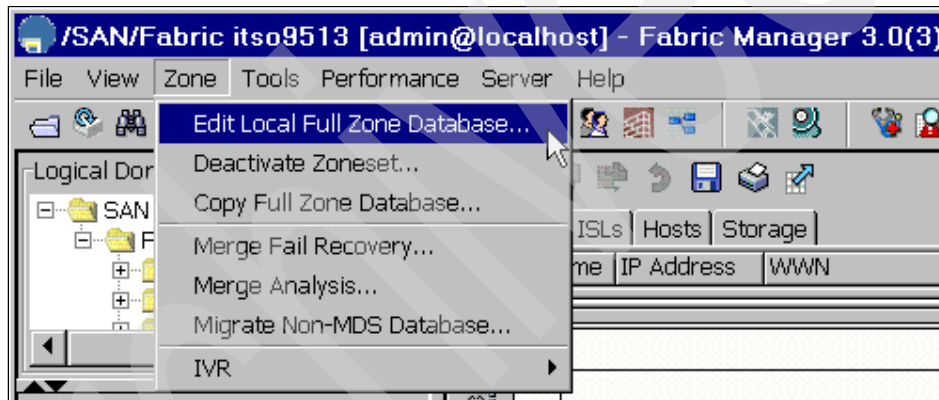

Figure 49 Edit Local Full Zone Database
1. To start the process to set the default zone to permit, select **Zone** → **Edit Local Full Zone Database** (Figure 49).